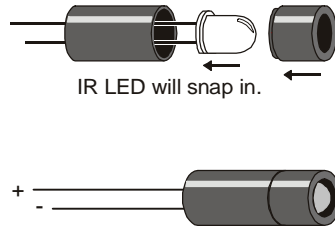

Figure 7-6
- ✓ Insert the infrared LED into the LED standoff (the larger of the two shield assembly pieces) as shown in Figure 7-6.